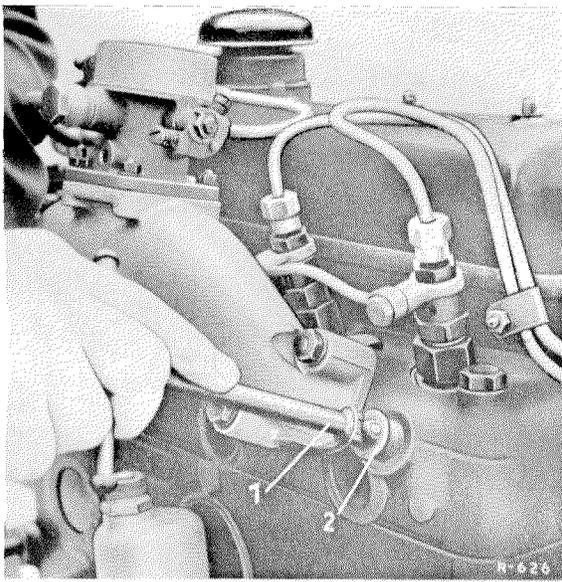

Figure 01-1/6
15. Before the installation of the glow plugs clean the glow plug holes and the holes in the pre-combustion chambers with the Reamer Part. No. 636 509 03 53. To do this, fill the grooves of the reamer with grease and ream the plug holes (Figure 01-1/6).
Note: Regarding the OM 621, observe the distance between the parting line of the cylinder head and the front surface of the prechamber. **The distance "c" should amount to 5.7 + 0.2 mm** (see Figure 01-1/10). If the parting line of the cylinder head had been re-machined, do not fail to install thicker seal rings (13) between cylinder head and prechamber when installing the prechambers. Thus the measure "c" is maintained (see Figure 01-1/10).
The reamer should only be inserted approx. 55 mm, so that the ball pin in the pre-combustion chamber will not be damaged. (See Figure 01-1/9).